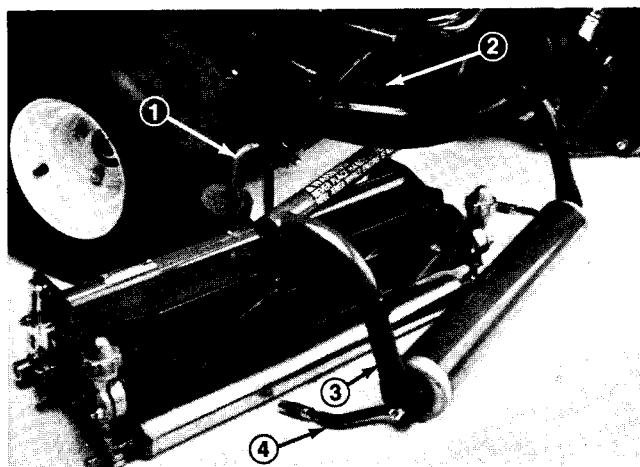

Figure 21
4. Slide cutting unit out from under pull frame, disengaging the lift arm from the lift ball (Fig. 21).